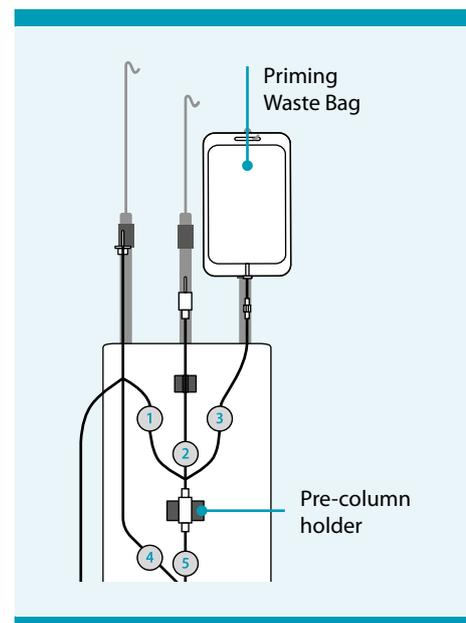

Figure 7.3: Attach Priming Waste Bag to bag hanger
1. Attach the Priming Waste Bag to the right-hand bag hanger on the instrument (see Figure 7.3).